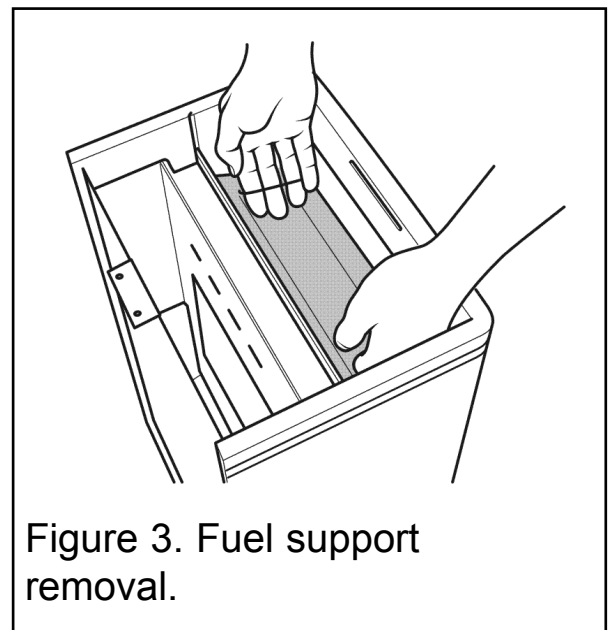

Figure 3. Fuel support removal.
2. Remove the accessible loose coals and lift out the fuel Support (See figure 3).